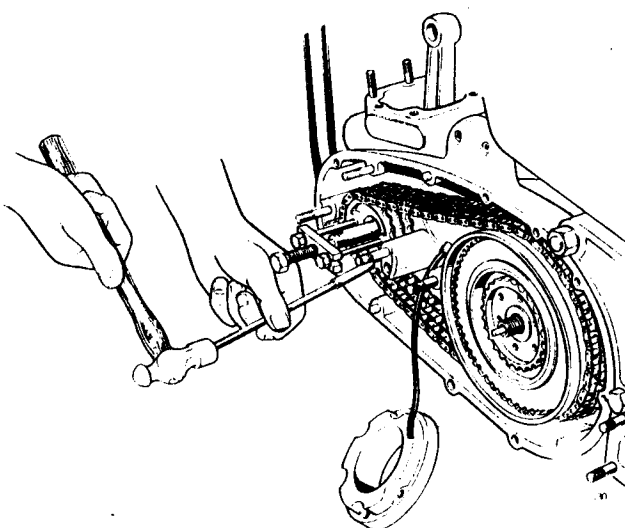

Fig. C15 Use of engine sprocket puller 064297
- 13 Prepare to remove the engine sprocket, primary chain and remainder of the clutch as a set. This necessitates the use of engine sprocket puller part number 064297 assembled to the sprocket and engine crankshaft as shown in *Fig. C15*. It is essential that the side bolts are screwed into the sprocket at least $\frac{1}{4}$ in. prior to tightening of the centre bolt for extraction purposes for otherwise the thread may be stripped. Now tighten the centre bolt of the puller against the crankshaft and shock the side of the sprocket using a soft metal drift and hammer, whereupon the taper joint between the sprocket and shaft should be broken.